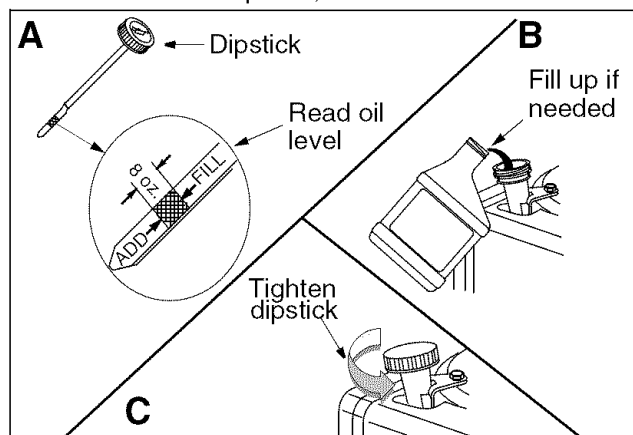

Figure 13
1. With engine on level ground, oil must be to FULL mark on dipstick. See Figure 13 .